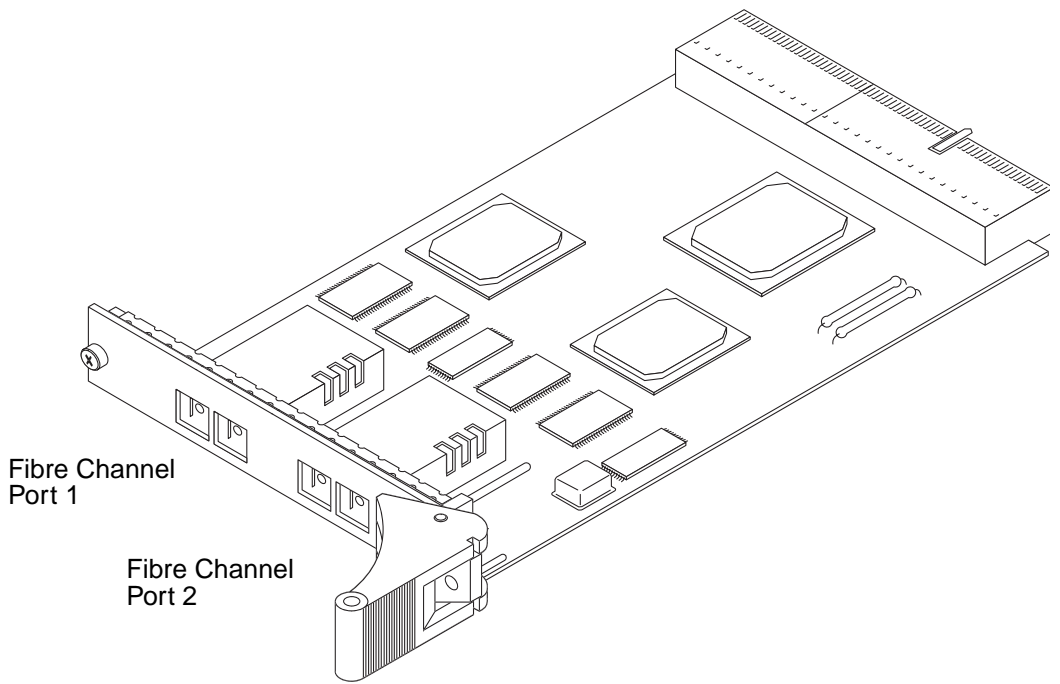

FIGURE 1-1 Sun Dual Fibre Channel 3U Compact PCI Adapter
- FIGURE 1-1 Sun Dual Fibre Channel 3U Compact PCI Adapter 1